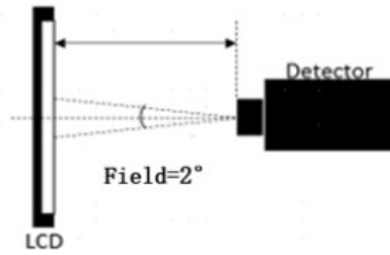

Fig 4.1 Measurement equipment.
(1) Each chromaticity coordinates (x, y) are measured in CIE1931 color space when full-screen displaying (Red, Green, Blue, White) and light source is defined by HKC BLU, measurements shall be made at the center of the panel, and setup of measurement is shown in Fig 4.1.
(2) The color gamut is defined as the fraction in percent of the area of the triangle bounded by R, G, B coordinates and the area is defined by sRGB 1931 color standard in the CIE color space. Chromaticity coordinates are measured by SRUL2 and the standard setup of measurement is shown in Fig 4.1.
(3) Definition of Transmittance (T%):
(6) Definition of Viewing angle:
As Note (4) the static contrast ratio definition, the viewing angles are defined at the angle that the contrast ratio is larger than 10 at four directions relative to the perpendicular direction of the HKC's module (two vertical angles: up  $\theta_{y+}$  and down  $\theta_{y-}$ ; and two horizontal angles: right  $\theta_{x+}$  and left  $\theta_{x-}$ ). The standard setup of measurement is shown in Fig 4.1 & 4.4